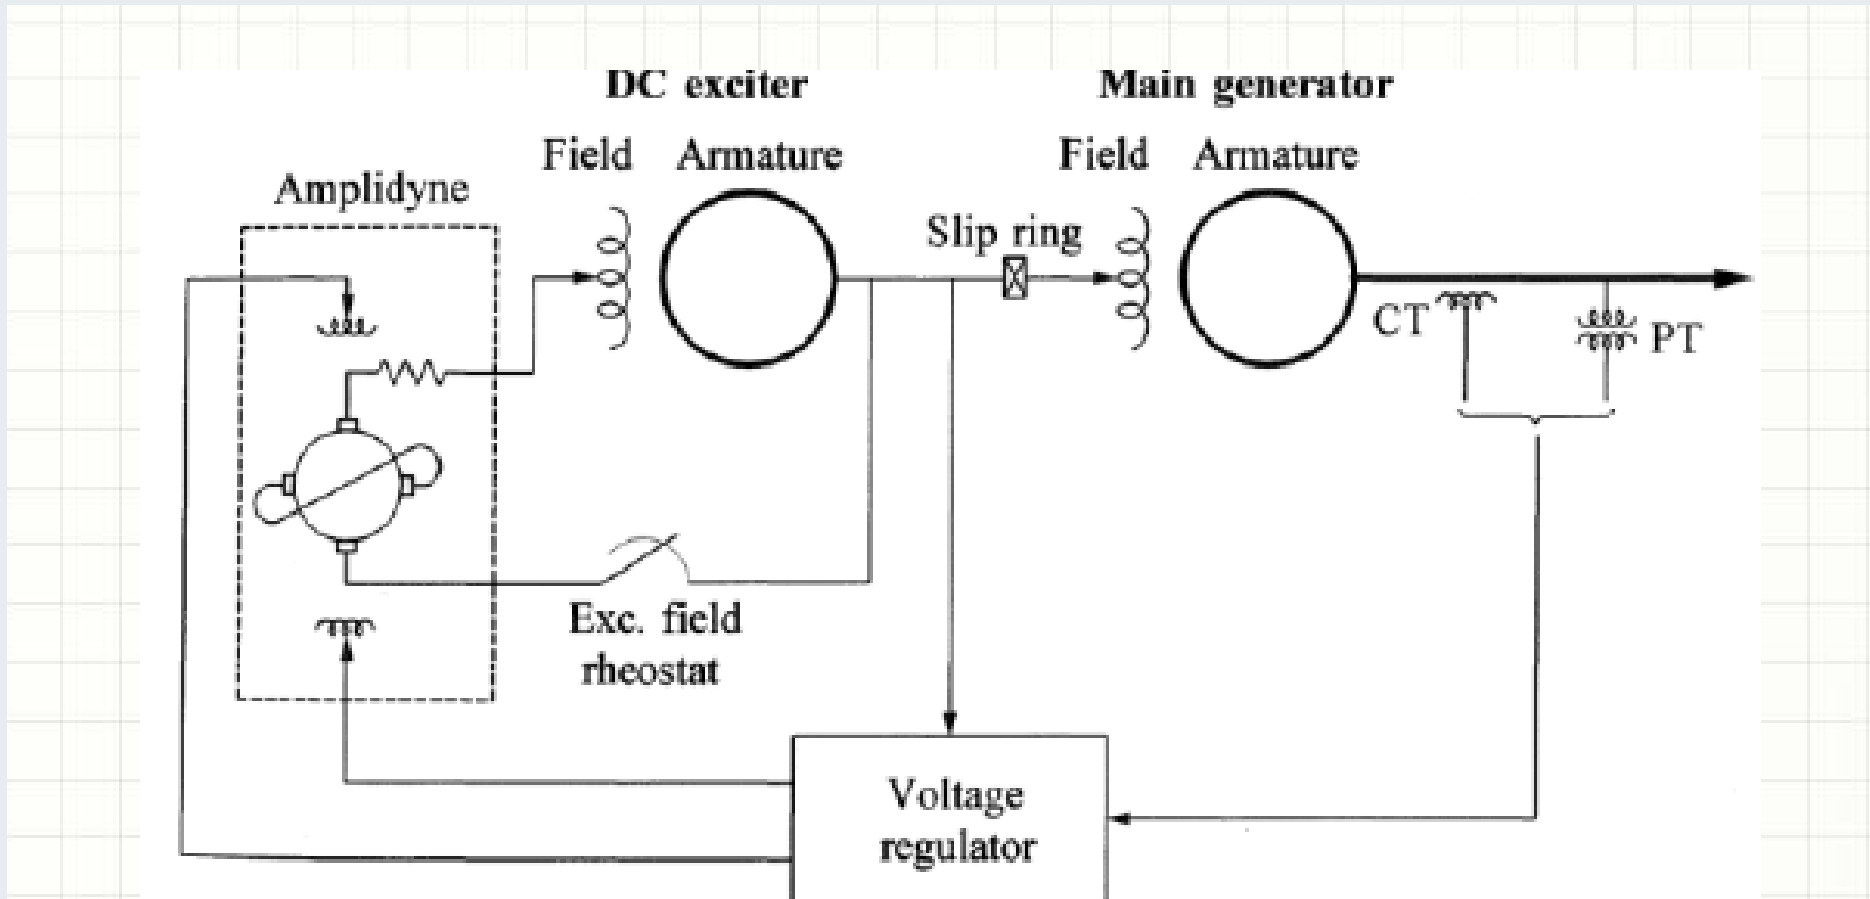

Figure 4. DC excitation system.
- Fig. 4 depicts one type of basic DC excitation system[2].